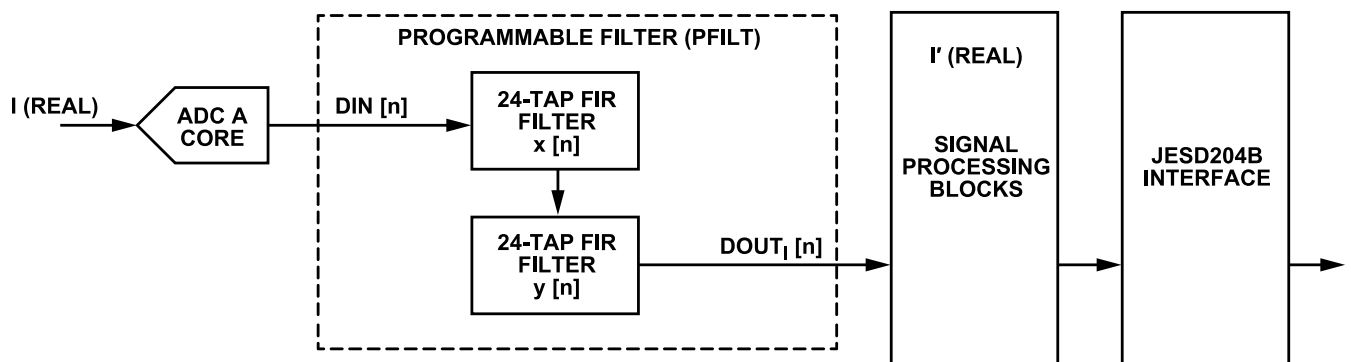

Figure 80. Real, Two Cascaded, 24-Tap Filter Configuration
- Real set of two cascaded 24-tap filters (see Figure 80)